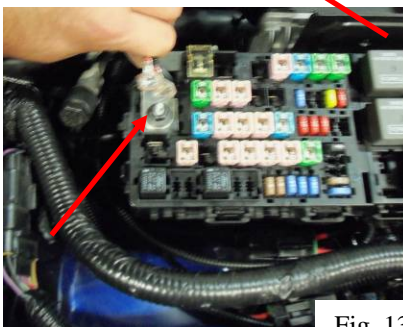

Fig. 13
- 34) Attach both red wires from the fuse holders to the main power distribution of the fuse box (Fig. 13).